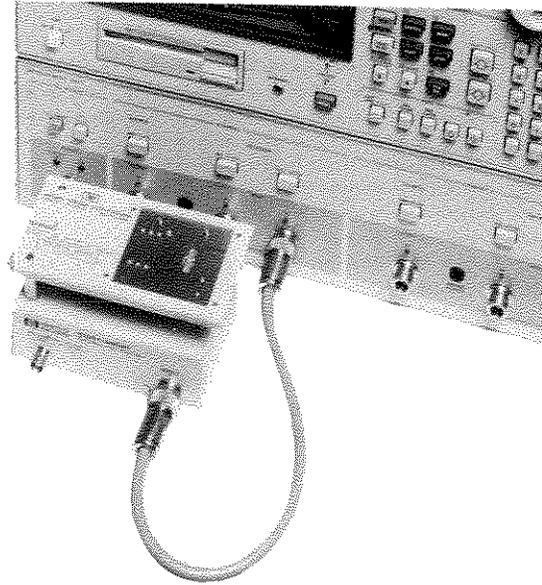

Figure 3-4. Test Fixture Connection
20. Disconnect the 50Ω termination and place the test fixture atop the Impedance Test Adapter as shown in Figure 3-4.